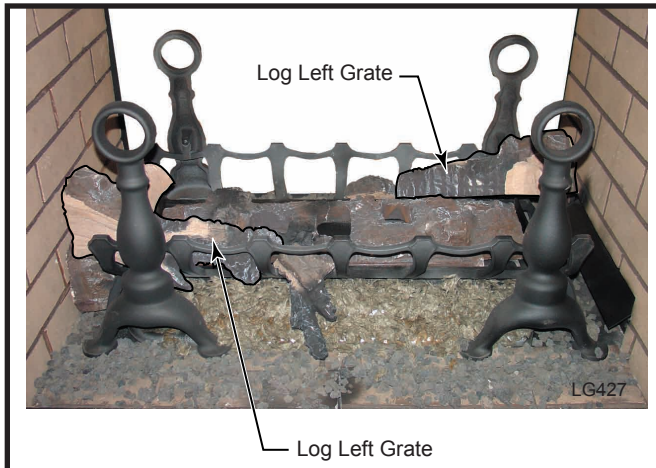

Fig. 47 Position log left grate.
8. Position the log left grate. (Fig. 47) Hold the log with your left hand with the pointed end toward the right and the flat surface facing down. Set the log on the inside of the fettle toward the left over the overlay and hook the branch and the pointed end of the log through the first and second opening on the fettle by using the second and third tine. When the log is in place, it will be sitting at an angle in the air above the overlay. Repeat this step for opposite side.